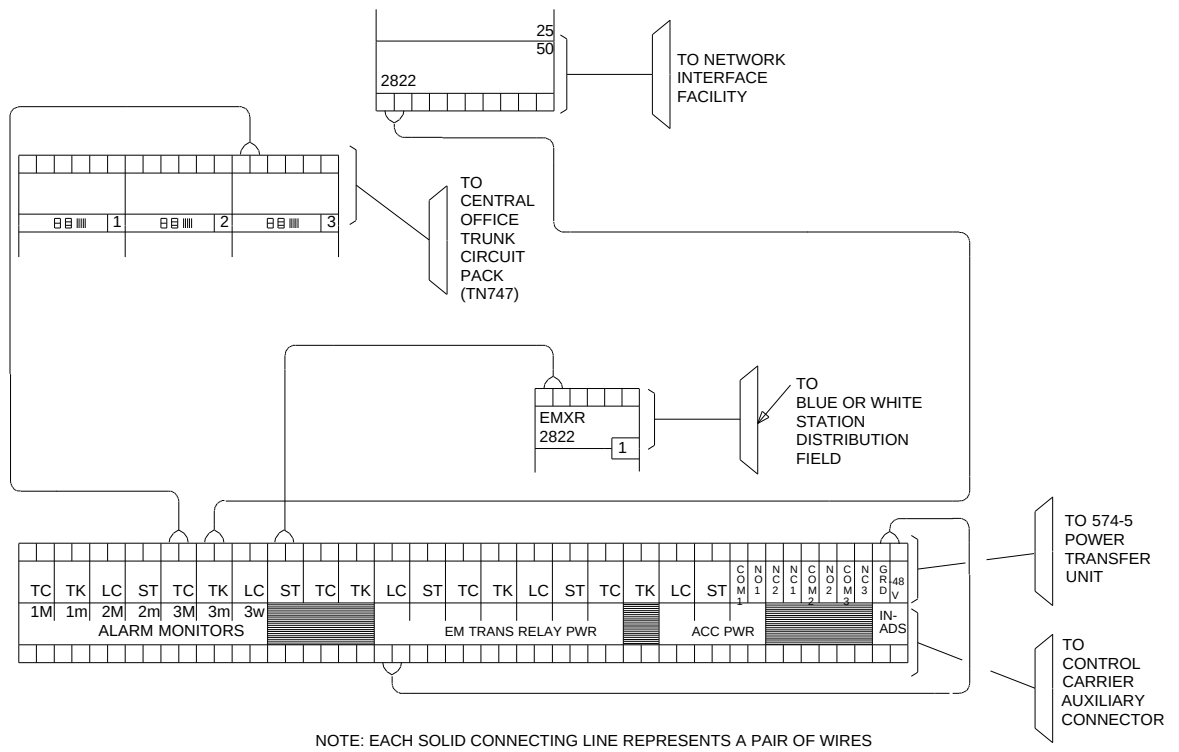
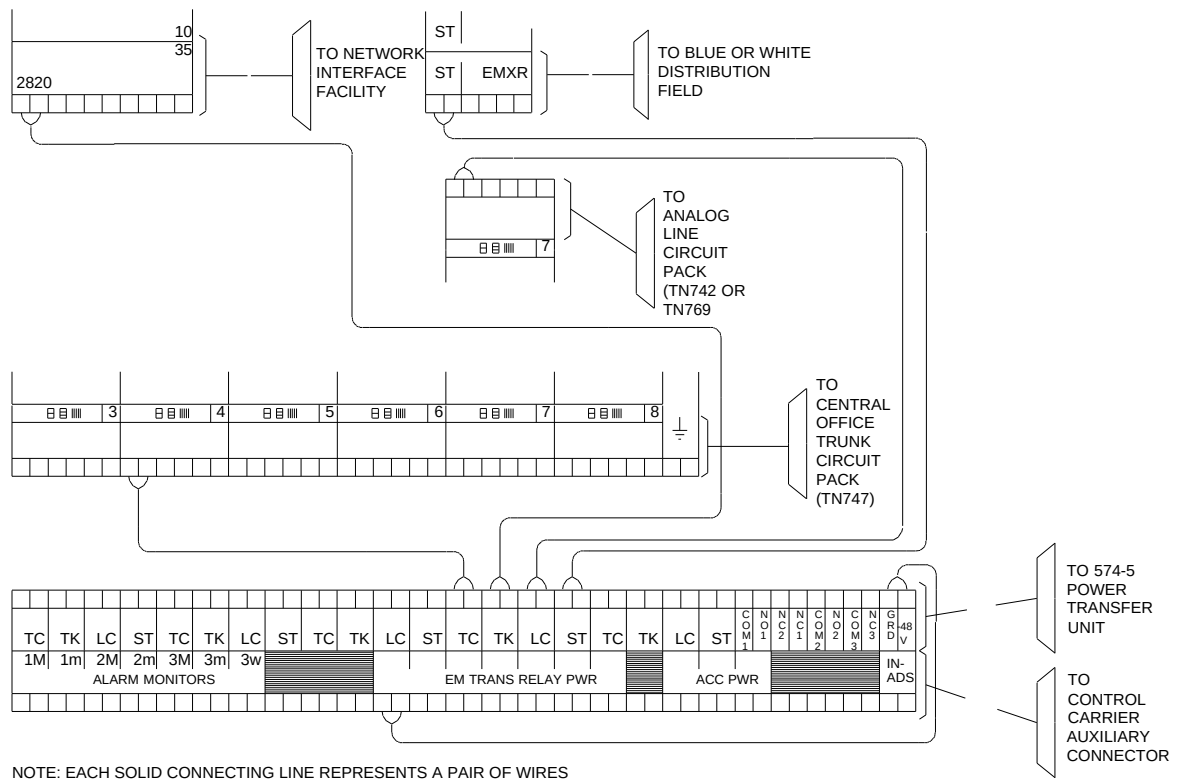

Figure 10-25. Connections at Trunk/Auxillary Field Equipped with 110-Type Hardware for Telephone Used Only for Emergency Transfer
Figure 10-27. Connections at Trunk/Auxilliary Field Equipped with 110-Type Hardware for Telephone Used for Emergency Transfer and as Normal Extension
Figures 10-25 and 10-26 shows the connections on 110-type terminal blocks and 66-type connecting blocks, respectively, at the trunk/auxiliary cross-connect field for a telephone used only for emergency transfer. Figures 10-27 and 10-28 show the connections on 110-type terminal blocks and 66-type connecting blocks, respectively, at the trunk/auxiliary cross-connect field for a telephone used for emergency transfer as well as a normal extension.
1. At trunk/auxiliary cross-connect field, connect a pair of wires between the **-48V** and **GRD** terminals on the yellow emergency transfer row/connecting block and the **EM TRANS RELAY PWR** terminal (Figures 10-25 and 10-26, respectively for 110-type and 66-type hardware).
1. At trunk/auxiliary field, connect a pair of wires between the **-48V** and **GRD** terminals on the yellow emergency transfer row/connecting block to the **EM TRANS RELAY PWR** terminal (Figures 10-27 and 10-28, respectively for 110-type and 66-type hardware).